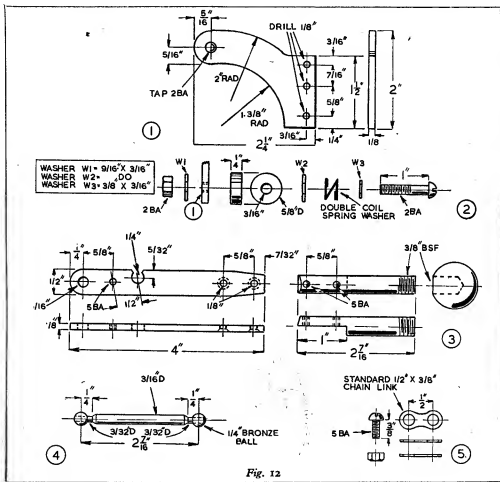

Fig. 12
The general appearance of the fitting is shown in Fig. 11, and the dimensioned working drawings bearing corresponding reference numbers are given in Fig. 12.
The frictional control of the lever is provided for by a double-coil spring-washer compressed between two $\frac{1}{8}$ in. plain washers. A distance collar is fitted between the bracket and the lever to maintain the correct centre height in relation to the tool carrier, and thus allow the connecting-rod to lie horizontally. The dimensions of the parts forming the lever pivot assembly are shown in Fig. 12 (2).